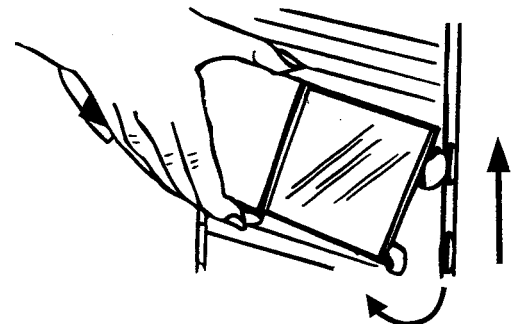

Figure 44
- Remove all food from shelves and gently tap upward under both ends. Lift and rotate bottom of shelf outward to release hooks from door slots. See Figure 44.